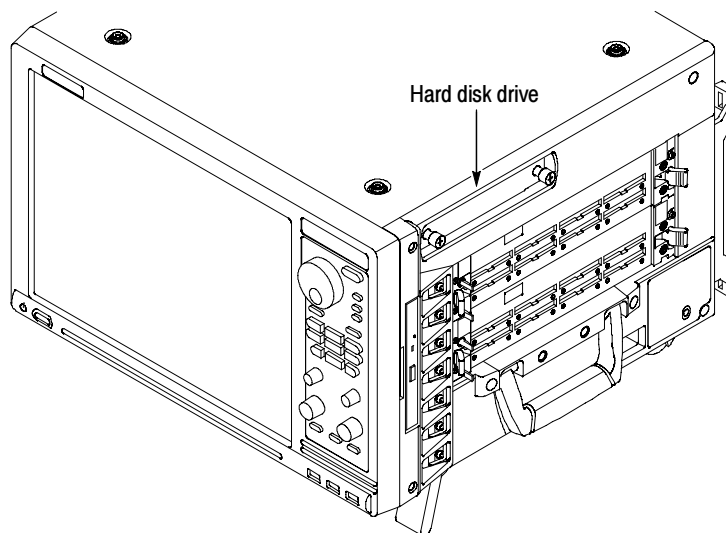

Figure 20: Accessing the TLA7012 replaceable hard disk drive
2. Remove the replaceable hard disk drive cartridge by unscrewing the locking thumbscrews; see Figure 20.